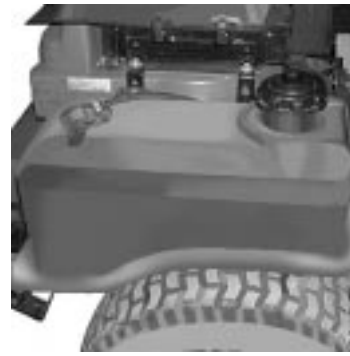

Figure. 4
7. **Fuel Shutoff Valve:** (See Figure 4.) Located behind the operator's seat, the valve has three (3) positions: “off”, “Left Tank”, “Right Tank”. Close this valve if you are not going to run the mower for a period of 30 minutes or more to prevent flooding the engine. The fuel system operates at 25 psi when the ignition switch is in the “on” position.